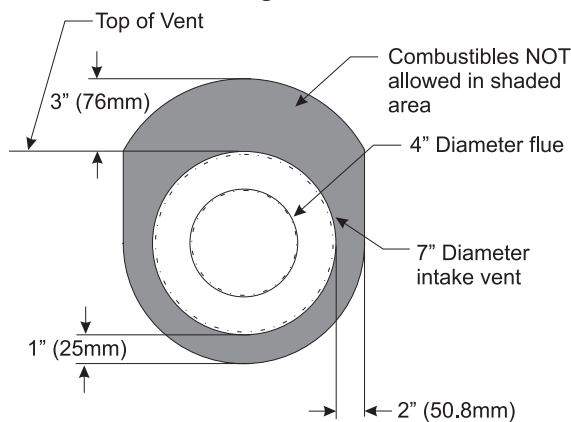

Figure 47
5. Install the Wall Firestop/Thimble assembly as required through the wall. Refer to the venting charts in the fireplace manual to determine the proper height and size of the vent opening. The minimum opening should be 11" wide by 11" high. The minimum combustible clearance from the horizontal vent is 2" from sides and bottom, and 3" above the vent pipe. See Figure 47.